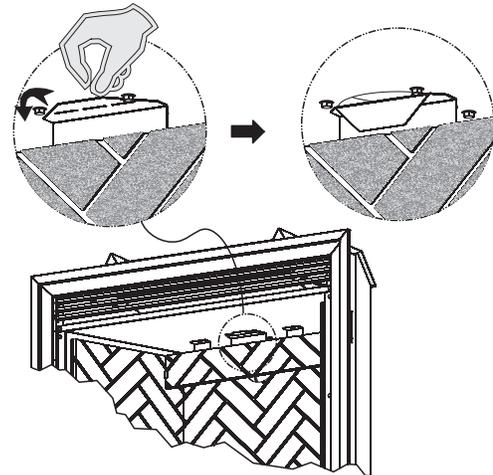

Figure 2
18. Attach air shutter to burner assembly with one (1) 8 x 1/4" screw from Step 7.
19. Attach burner assembly to firebox bottom with four (4) 10 x 1/2" screws from Step 7.
20. The flue vent baffle must be opened up when converting to Propane Gas from Natural Gas. Grasp edge of baffle and bend downward so that the bend is approximately at a 90° angle. **See Figure 2.**